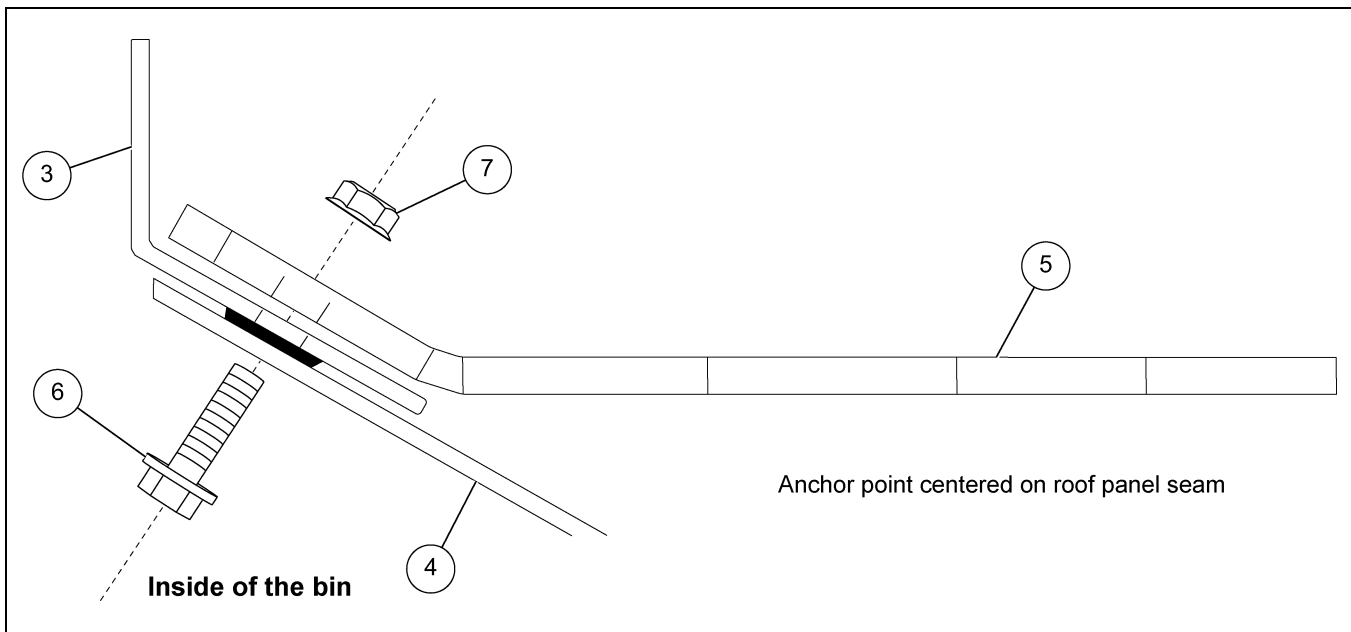

Figure 2C Fastening the Anchor Point to the Roof
3. Once the location along the peak ring collar (3) has been identified, remove a grouping of three existing bolts from the perimeter of the collar (3). Insert three 5/16" x 1-1/4" bolts (6) from the underside of the roof panel (4) through the peak ring collar (3) and through the three bolt holes on the bin anchor point (5). Secure the bolts (6) with three flange nuts (7). For placement details, refer to Figure 2C and Figure 2D on Page 11.